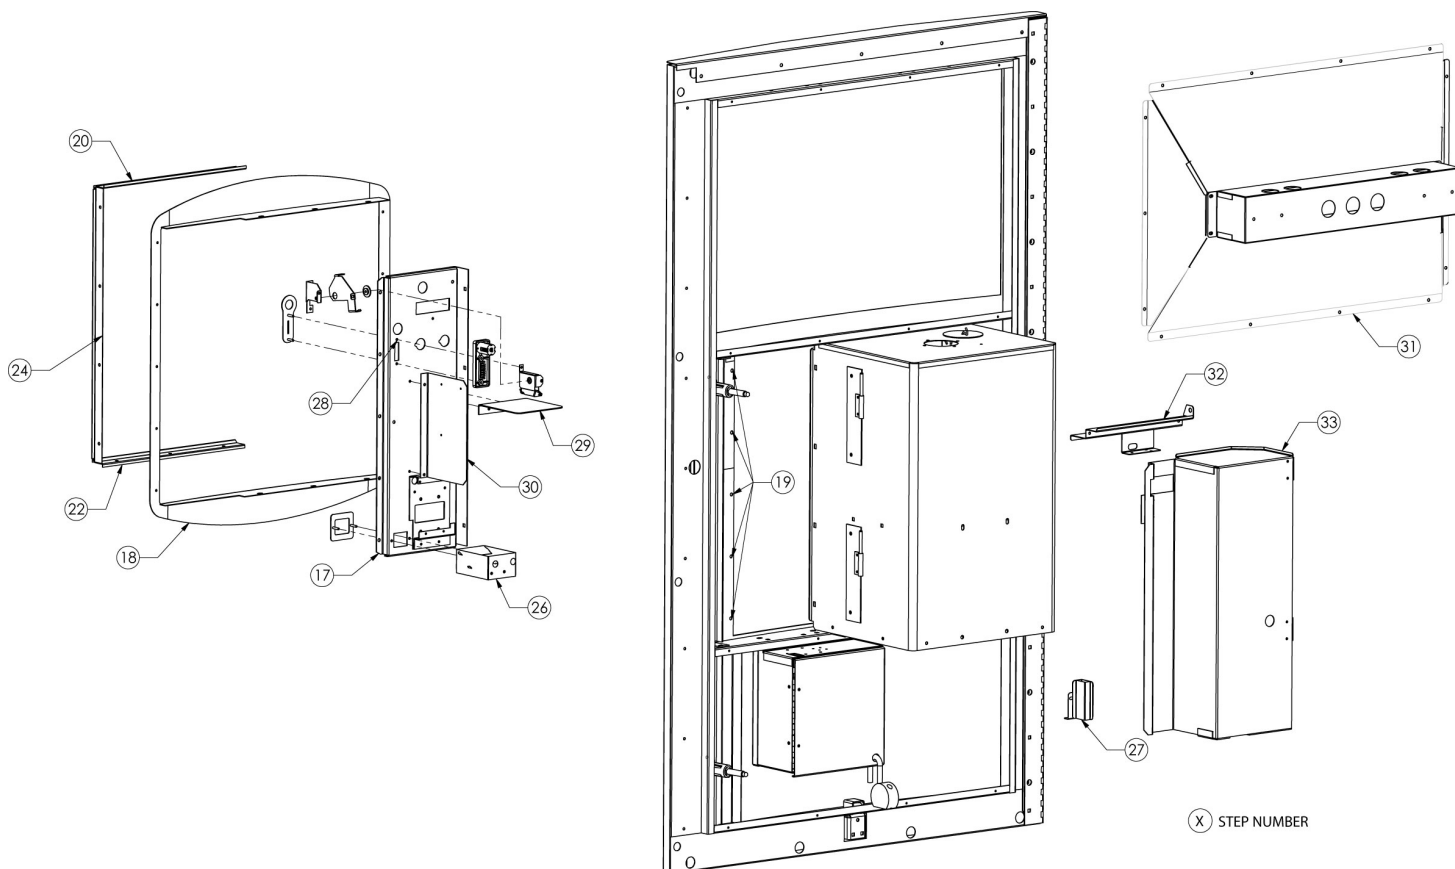

FIGURE 2
- Step #17** Install control panel – See Figure 2.
- Step #18** Install bezel – See Figure 2.
- Step #19** Secure control panel with nuts – See Figure 2.
- Step #20** Install top seal (note: Align holes with Philips screwdriver) – See Figure 2.
- Step #21** Secure top seal to water station with nuts – See Figure 2.
- Step #22** Install bottom seal (note: Align holes with Philips screwdriver) – See Figure 2.
- Step #23** Secure bottom seal to water station with nuts – See Figure 2.
- Step #24** Install door seal with nuts – See Figure 2.
- Step #25** Secure door seal with nuts – See Figure 2.
- Step #26** Install new coin return chute assy (reuse coin return bezel) – See Figure 2.
- Step #27** Install new coin bag chute assy – See Figure 2.
- Step #28** Install new coin insert assy (reuse coin insert bezel and coin insert plate) – See Figure 2.
- Step #29** Install new barrier plate – See Figure 2.
- Step #30** Install the new Coinage Mounting bracket – See Figure 2.
- Step #31** Reinstall the Reflector – See Figure 2.
- Step #32** Reinstall Dex bracket – See Figure 2.
- Step #34** Reinstall coinage / DBV door – See Figure 2.